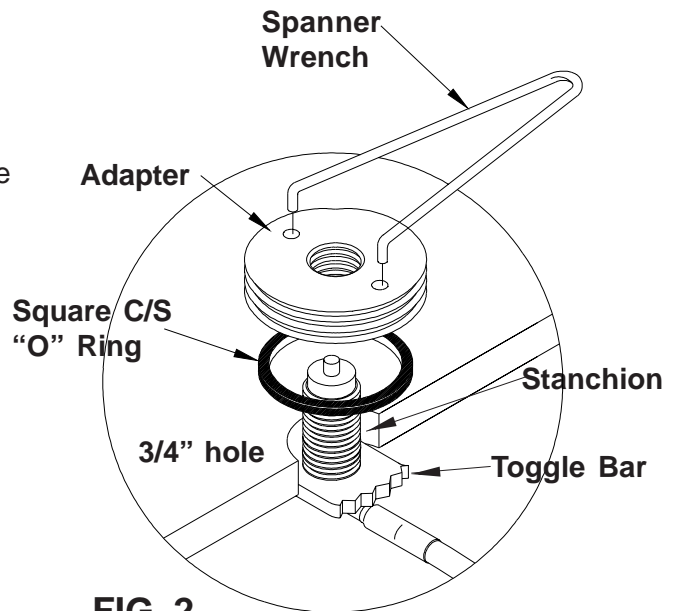

FIG. 2
1. Select mounting location. Center punch and drill 3/4" diameter hole (Fig. 2). Use a sheet metal punch or hole saw. Remove any burrs from around hole.